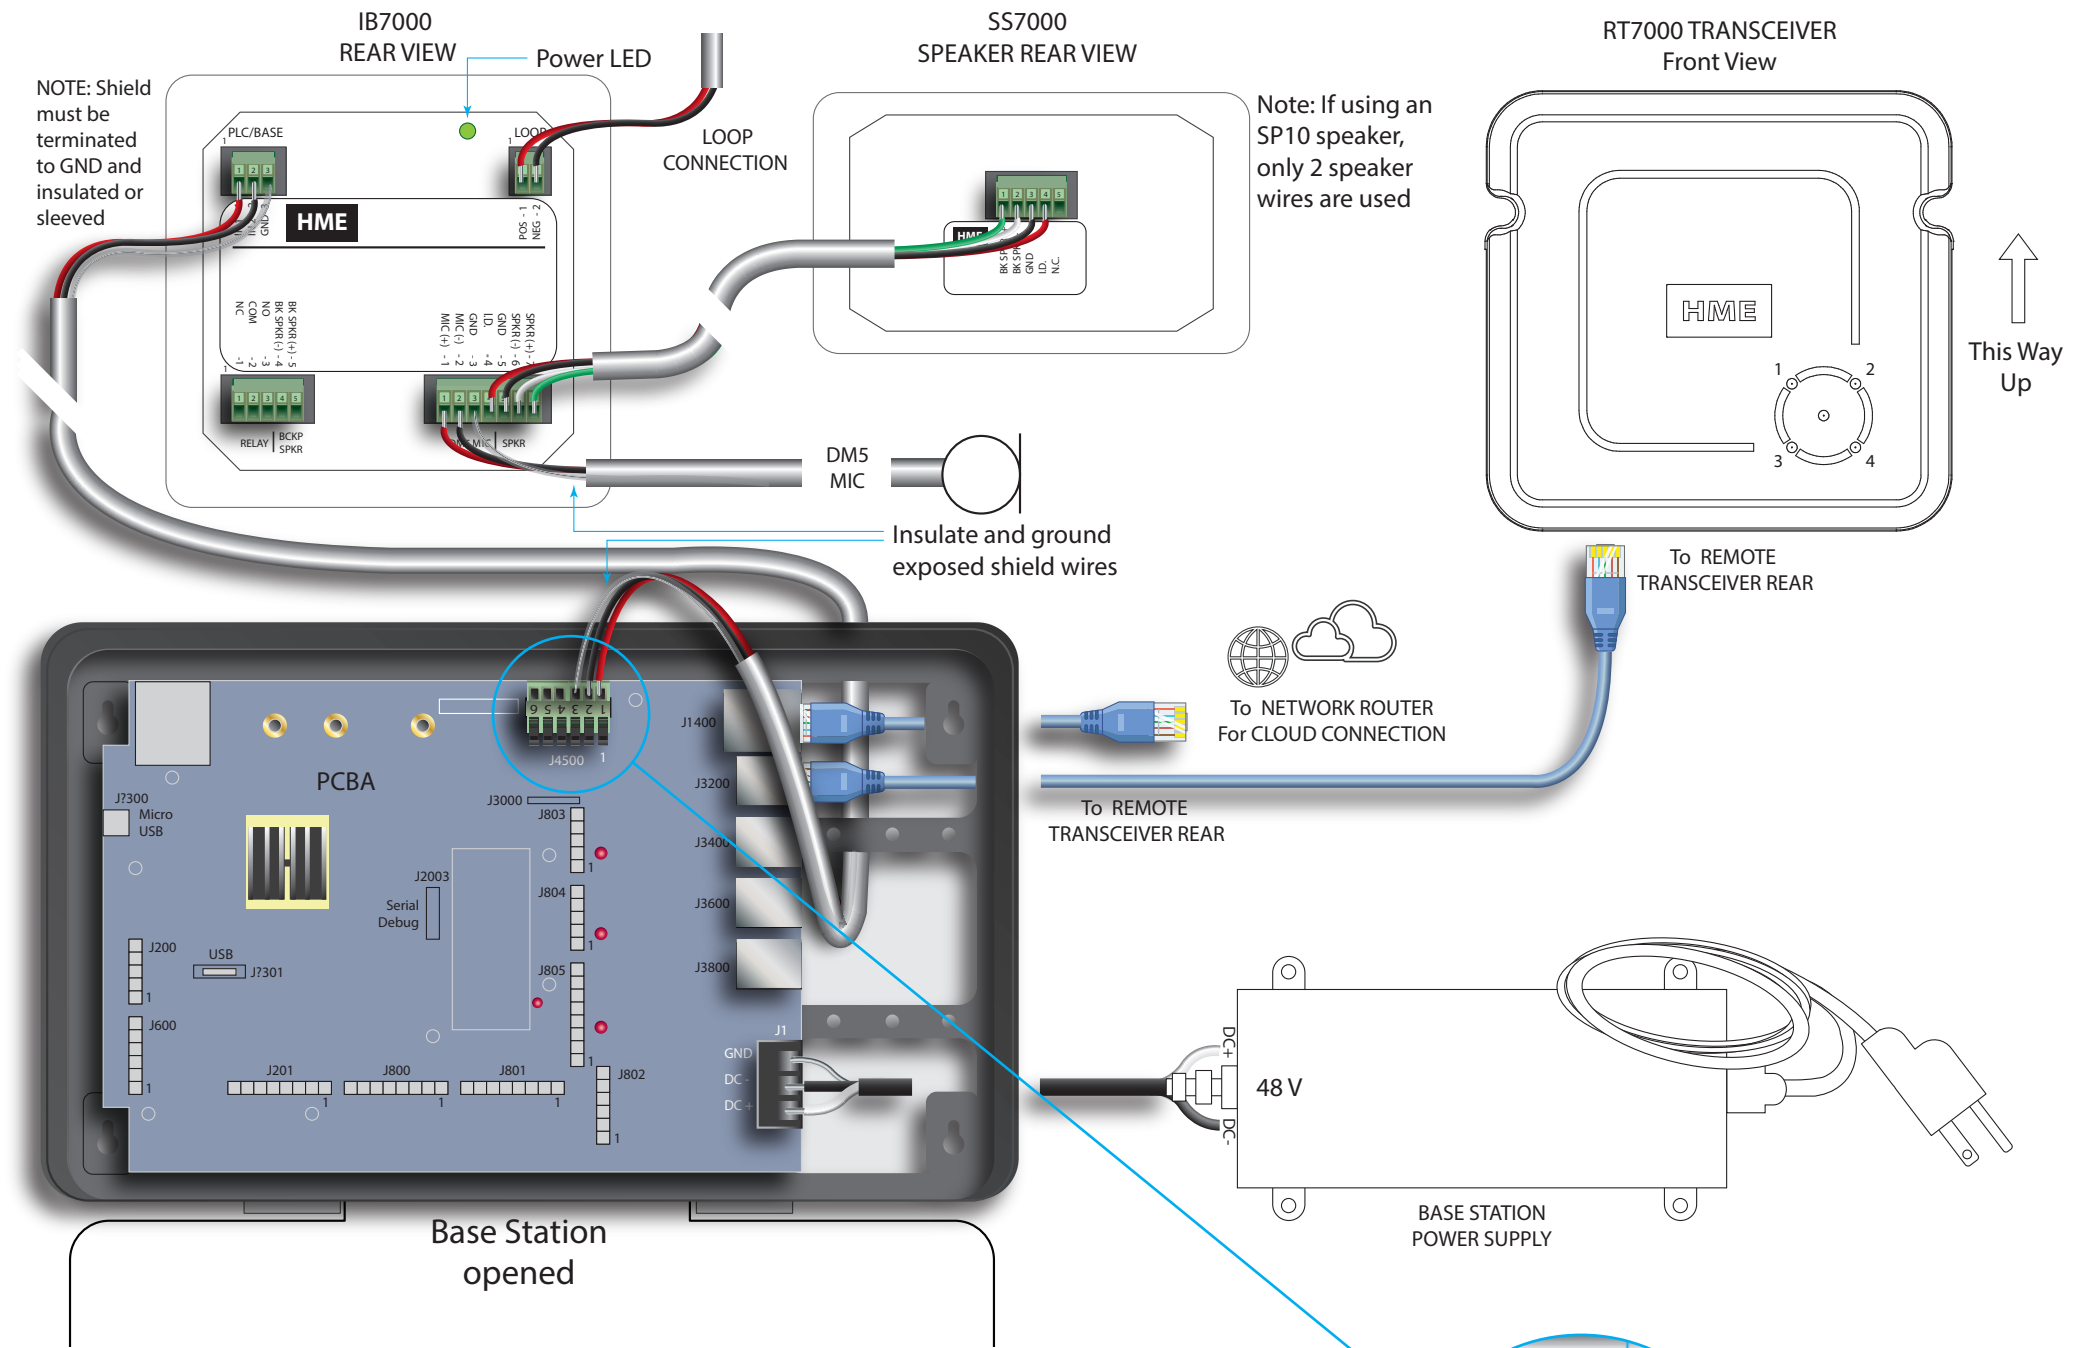

Fig. 2.3
- 6 Install the other components. The SS7000 (or SP10) speaker & DM5 microphone must be installed using the IB7000. See Fig. 2.3 and “Component Notes” on page 3, or Fig. 4.2 on page 4 if using the SP7000 & DM5 (does not require IB).
J4500 Detail: Fig. 2.3 shows the connections for a single-lane drive-thru. Fig. 2.4 shows the connections for a dual-lane drive-thru.